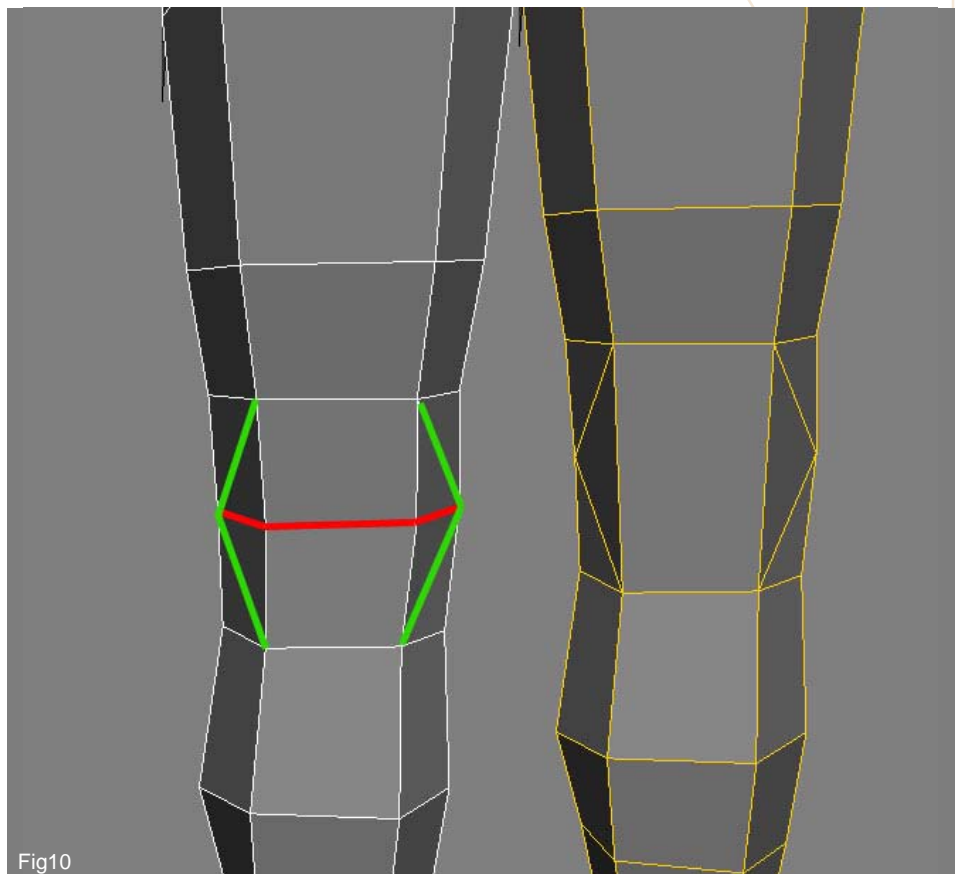

Fig10
10. Now that we have the leg and the foot done, we need to adjust one thing in the knee area. This is to obtain better deformations while animating. First of all, add two new cuts (marked in green in Fig 10) in the back of the knee. Then select the edges marked in red in Fig 10 and use the Dissolve & Clean Adj. Vertices command to remove these edges and their vertices.